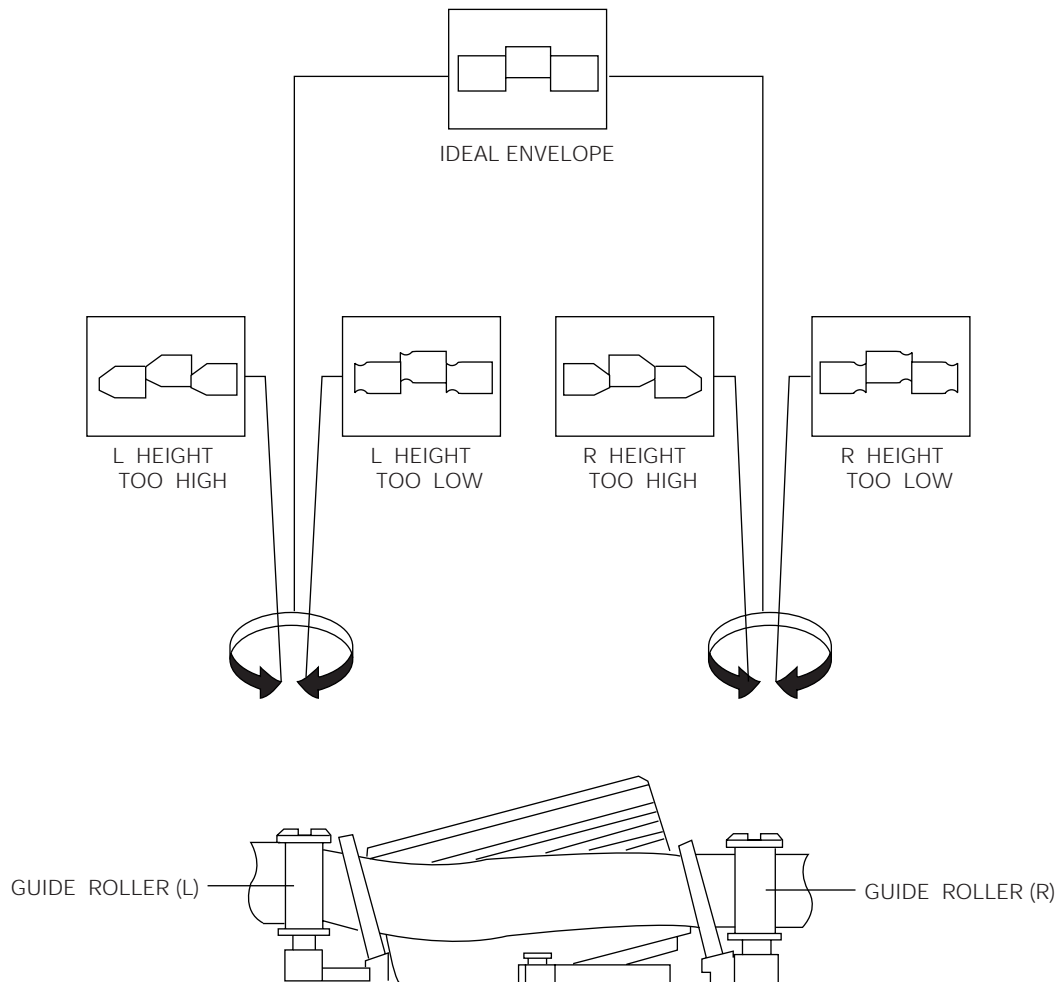

Fig. 4-67 S, T-Guide Roller Height Adjustment
8. Turn the guide roller heads with a flat head () driver to obtain a flat video RF envelope as shown in Fig. 4-67.